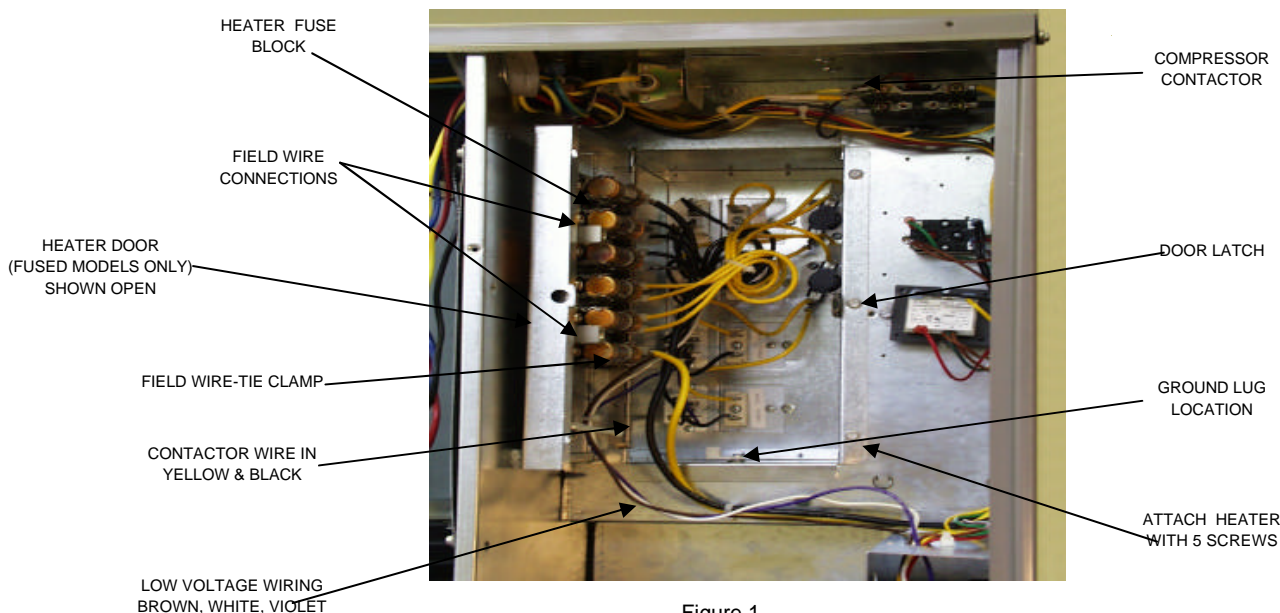

Figure 1
3. Remove access panel to heater compartment (See Fig. 1)
5. Locate and remove heater access cover plate. Save screws. (See Fig. 1)